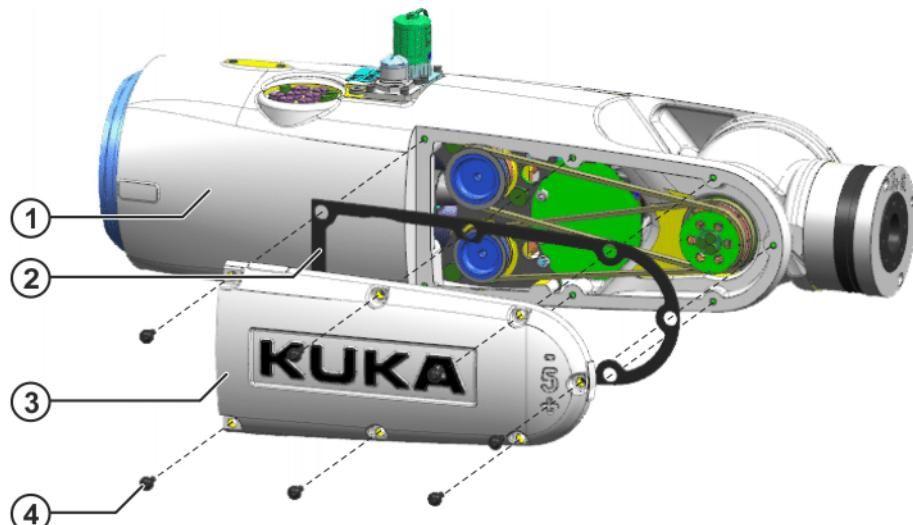

Fig. 9-5: Removing the cover from the in-line wrist – example
1. Remove 7 M3x10-10.9 fillister head screws from the cover and take off the cover together with the seal (>>> Fig. 9-5).